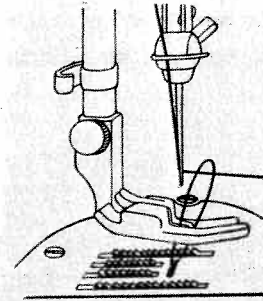

Fig. 12
3. Pull the thread you are holding, as the lower thread will be brought up with it through the hole in the needle plate, as shown (Fig. 12).